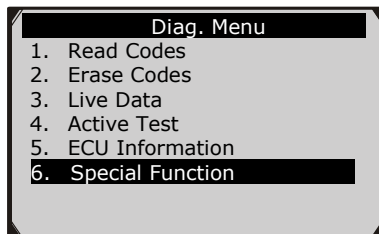

Figure 8.3
- 1) In the **Diagnostic Menu** (Figure 8.3), use the **UP/DOWN** button to select **Special Function** to do the EPB test, which includes **Brake cable replacement** and **Electric parking brake replacement**.
1. Follow the instructions above to display the **Diag. menu** screen.(Figure 8.3)